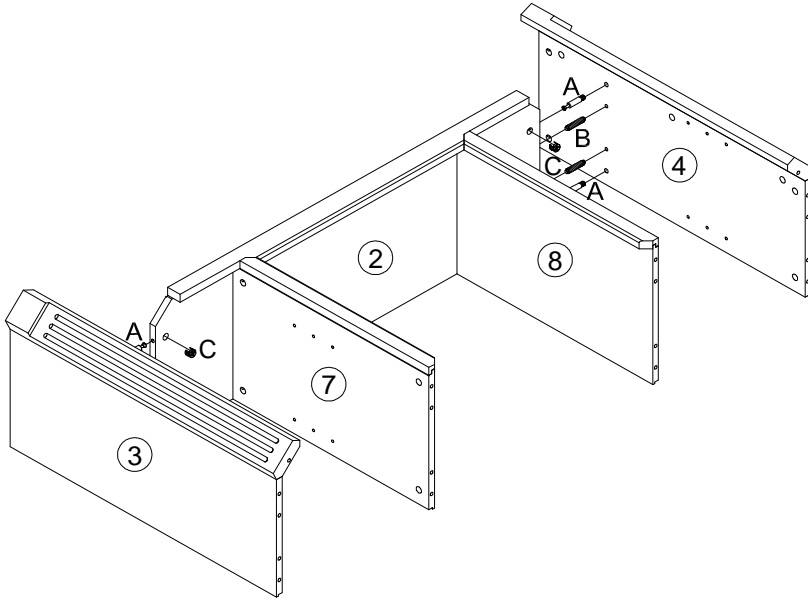

Figure 3
Insert cam locks (C) into predrilled holes on pre-assembly in figure 3
Attach top panel (1) to pre-assembly parts in figure 3 by inserting wood dowel (B) & cam bolt (A) into corresponding predrilled holes until assemble parts in figure 3 & top panel (1) meet.